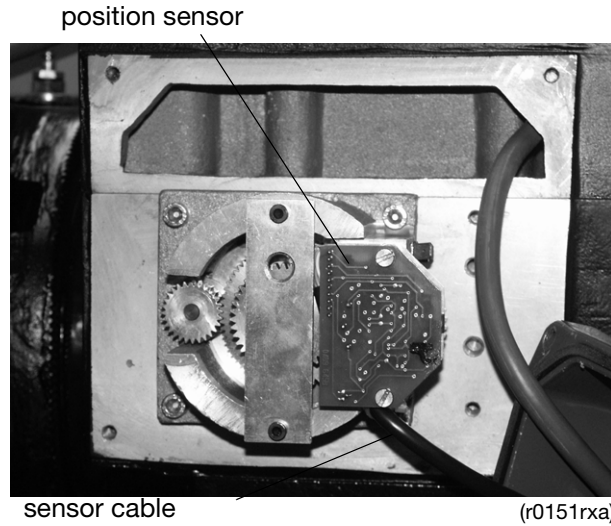

Figure 16: Mounting position of SP 1
- align the sensor and its gears with the actuator; set the first toothed gear in 03:00 o'clock position (see Figure 16) onto the drive shaft gear (4)
- fasten the screws (1) tightly